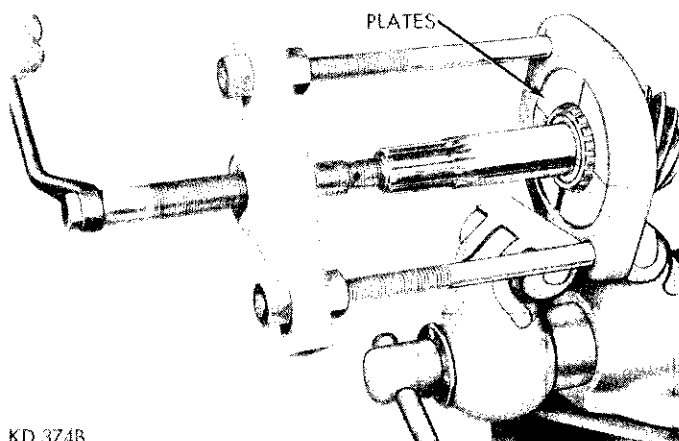

Fig. 19—Removing Drive Pinion Rear Bearing
(1) Remove drive pinion rear bearing from large stem pinion with Tool C-293 and four (4) No. 37 plates (Fig. 19).
(2) Using a flat end brass drift, remove front and rear pinion bearing cups.